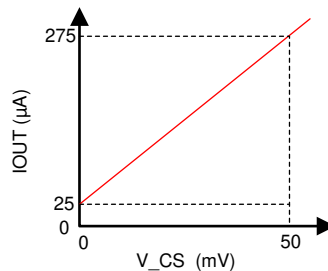

图 8-5. Channel Monitor Current Source vs Current Sense Voltage
- the 25 μA is a DC offset current superimposed on to the IOUT signals (refer to 图 8-5).